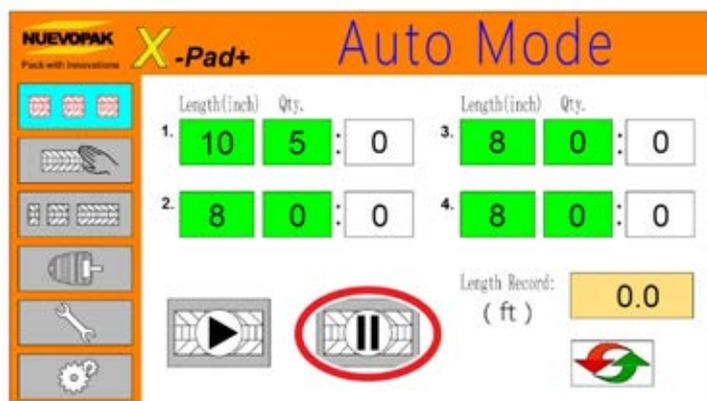

Figure 32 Pause Key
3. Change the pre-set output quantity (refer to Figure 32).